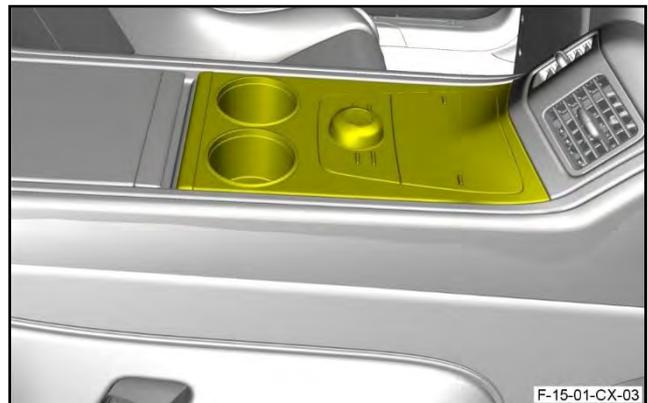

Figure 35
44. Release the console panel and rear centre stack assembly from the centre console (refer to Figure 35).